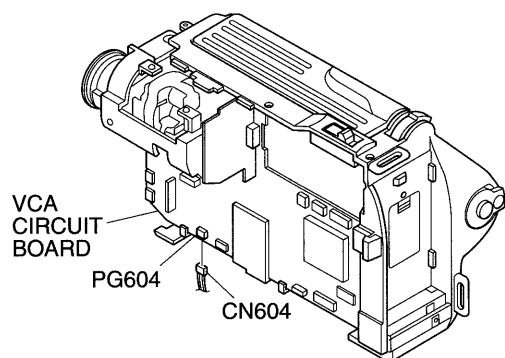

Fig. 3-1
- (2) Disconnect connector (CN604) from PG604 on the VCA circuit board, and supply 4V DC to CN604 (directly to the loading motor). (See Fig. 3-1)